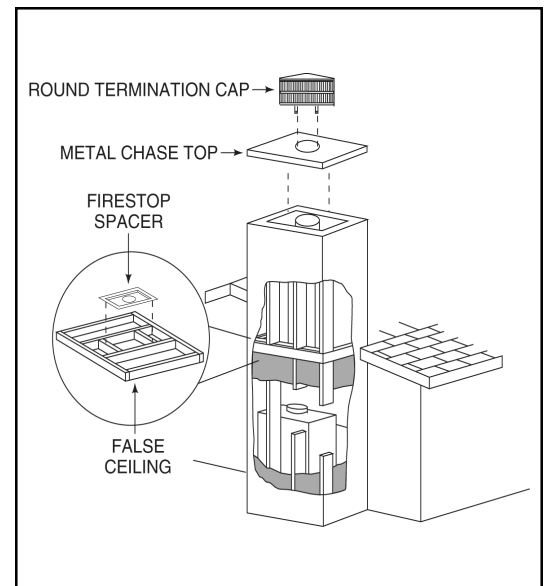

Figure 20 - Chase Assembly
- 5) In cold climates, the walls of the chase should be insulated to the level of the false ceiling as shown in Figure 20. This will help reduce heat loss from the home around the fireplace.